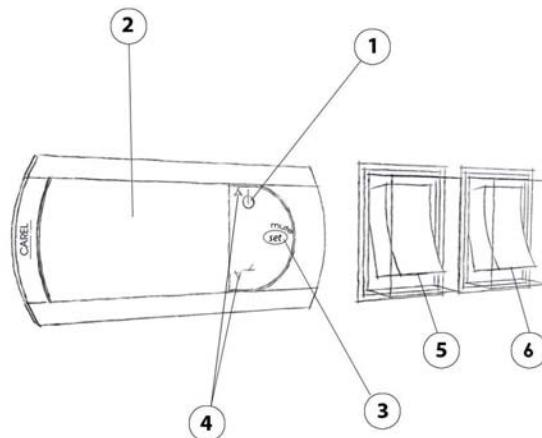

Figure 1.
- Press the circuit-breaker (figure 1; position 4) until the pilot light indicates that the unit is switched on.
- Press the "SET" button (figure 1; position 3) on the control unit.
- To change the temperature value press up or down button (figure 1; position 4).
- To save the value press and hold down the button "SET" (figure 1; position 3).
- Press the "SELECT" button (figure 1; position 3) in for five seconds. When the defrosting cycle has been activated, the light -emitted diode DEF/SET will light up on the digital control panel.